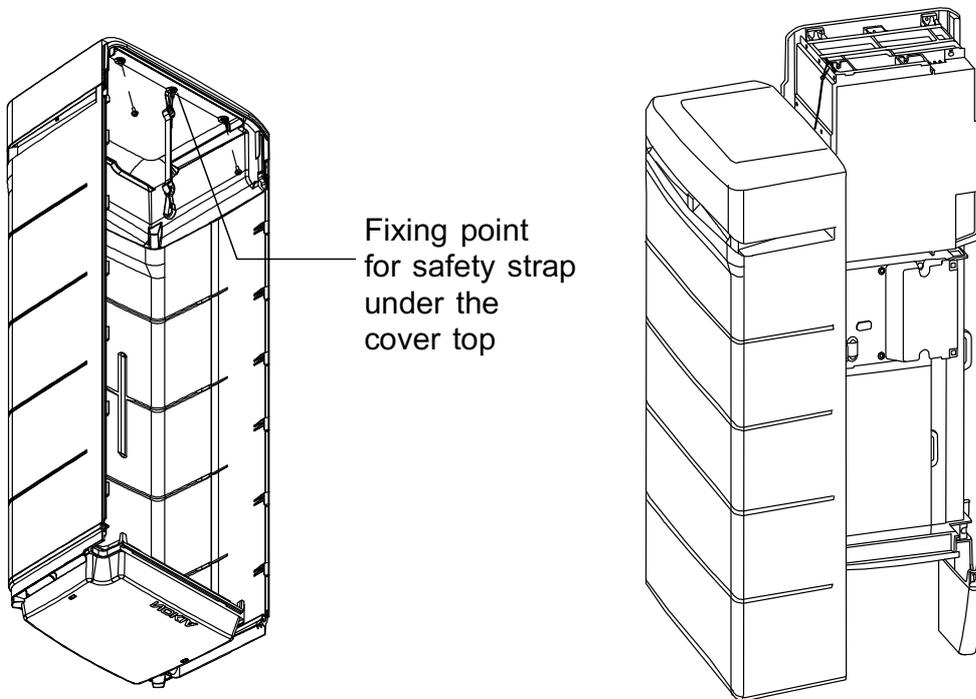

Figure 1. Safety strap on the MetroSite EDGE BTS cover
- Figure 1. Safety strap on the MetroSite EDGE BTS cover **14**